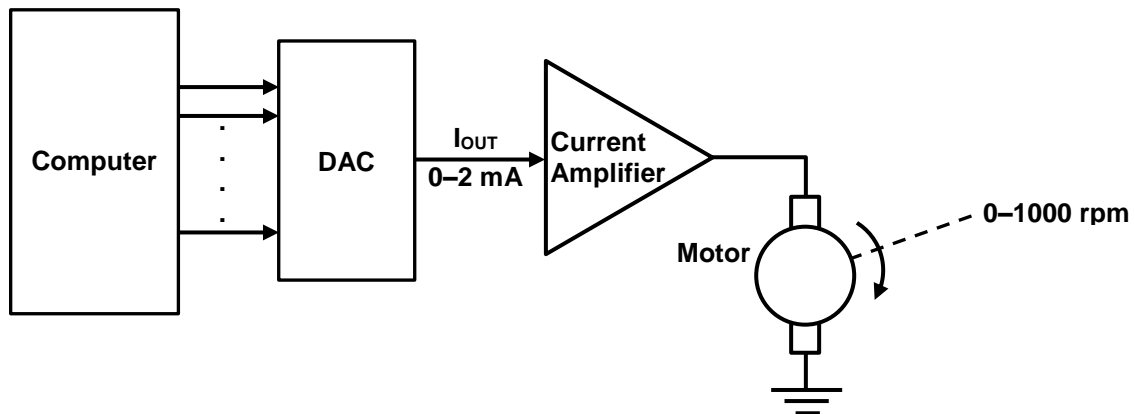

Figure 4(b)
- (b) Figure 4(b) shows a computer controlling the speed of a motor. The 0 to 2mA analog current from the DAC is amplified to produce motor speeds from 0 to 1000 rpm (revolutions per minute).